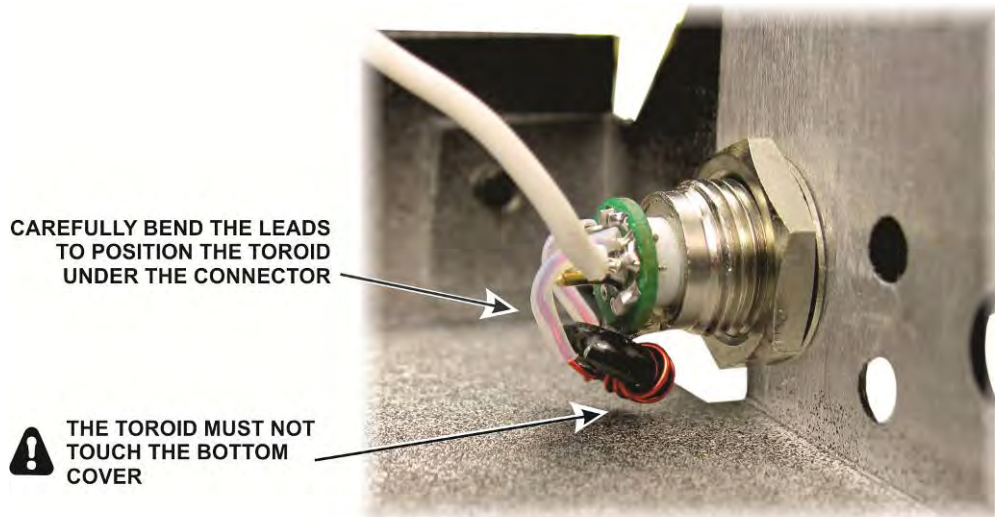

Figure 41. Positioning the LPF Toroid Under the Antenna Connector.
□ Carefully bend the leads to position the toroid underneath the antenna connector as shown in Figure 41. **Be sure the toroid does not rest against the bottom cover.**